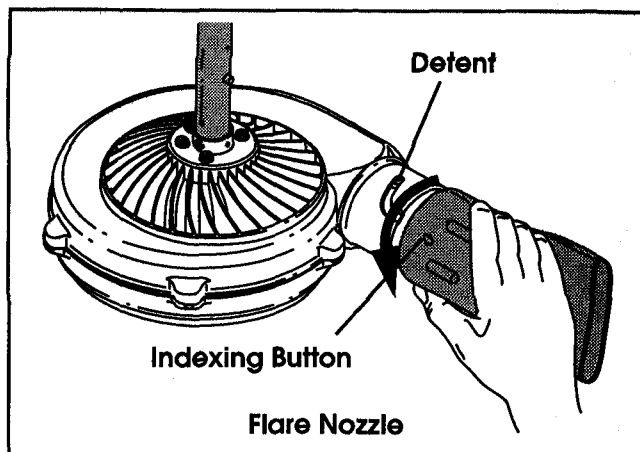
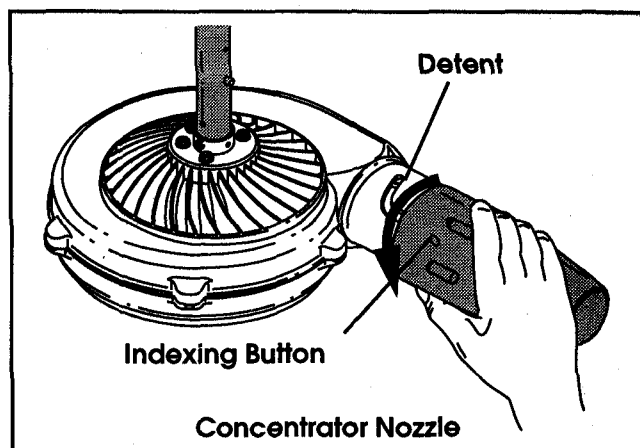

Fig. 5a
Fig. 5b
1. Grasp the nozzle and turn it **counterclockwise** approximately 45° until the indexing button on the inside of the nozzle snaps out of the detent in the blower housing (Fig. 5a for the flare nozzle and Fig. 5b for the concentrator nozzle). Pull the nozzle off of the blower housing.